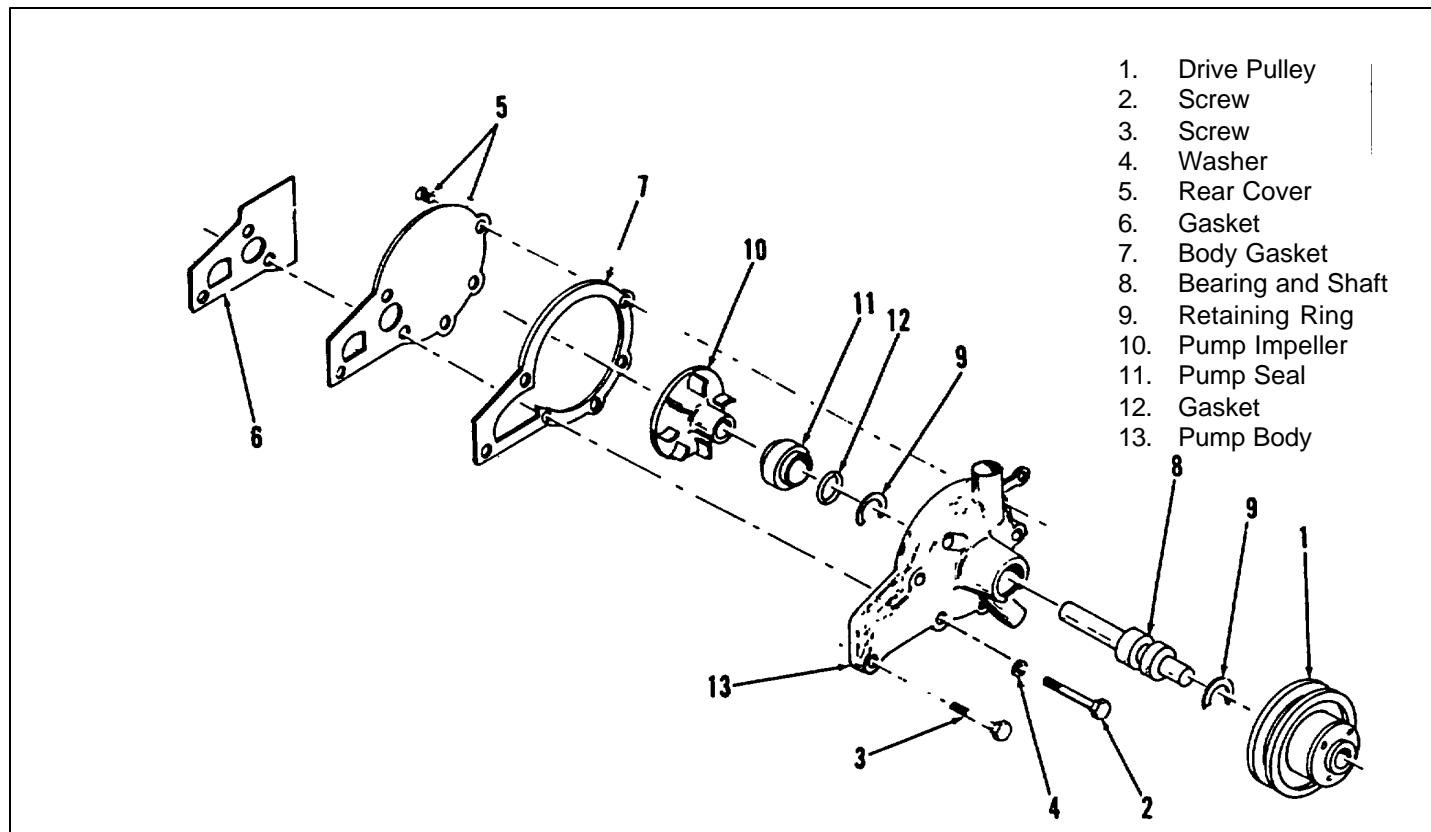

Figure 7-4. Engine Water Pump, Exploded View
7-23. WATER PUMP, INSPECTION. (See figure 7-4). Complete inspection requires checking the pump both assembled and disassembled. Proceed as follows:
2. Check shaft seals (11, figure 7-4) for deterioration.
3. Check mating surfaces of cover (5) and body (13) for cleanliness and freedom from warpage.
4. Check shaft and bearing (8) for smoothness of machined surfaces and free operation of bearing without looseness. Check hub and pulley (1) for alignment of pulley groove.